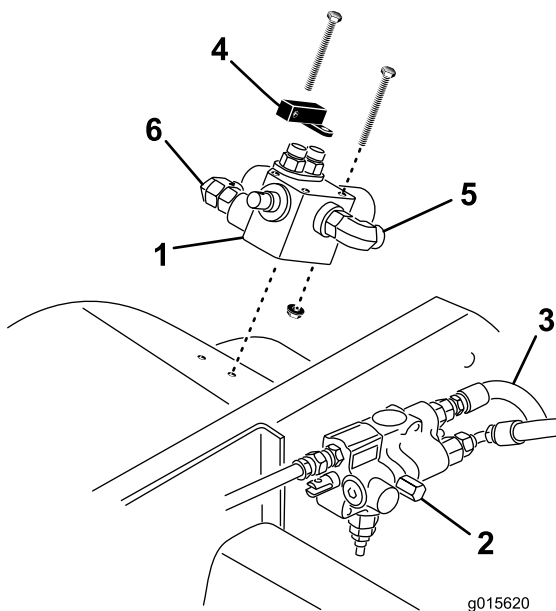

Figure 4
4. Mount the control valve and the pivot lever to the right fender with 3 bolts (1/4 x 2-3/4 inch) and 1/4 flange locknuts as shown in Figure 4.
5. Place a drain pan under the lift valve (Figure 4).
6. Disconnect the steering hose (Figure 4), from the “P” port (upper rear port) of the lift valve.
7. Connect the steering hose (from the lift valve “P” port) to the 90° fitting on the operator side of the control valve (Figure 4).
8. Connect the hydraulic hose with a straight fitting and 45° fitting to the “P” port of the lift valve and to the 90° fitting on the outer side of the control valve (Figure 4).